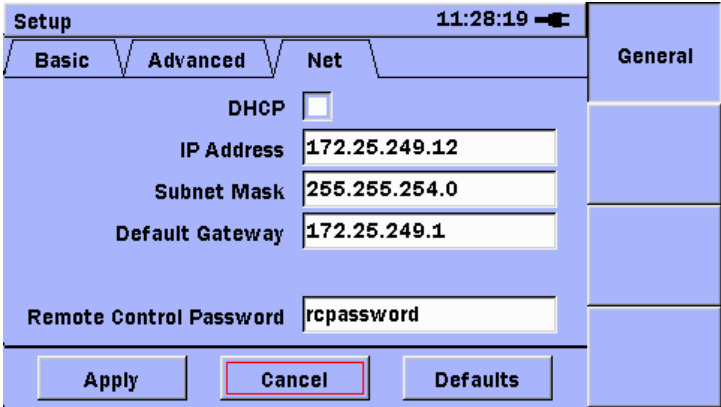

Figure B.1-5 Net Tab, DHCP Off
- 1. Highlight the DHCP check box. If the box is checked, press the **Set** key so that the box is cleared, as shown in Figure B.1-5.
If the IP address information (shown in Figure B.1-5) is changed while the USB-Ethernet adapter is plugged in to the MU909060 unit, then it is necessary to remove the USB-Ethernet adapter from the MU909060 and re-insert it, before the new IP address information will take affect.